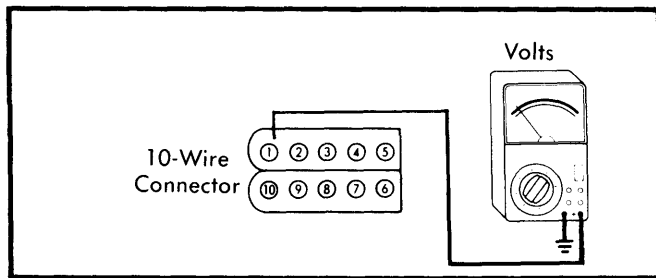

Fig. 3 Voltmeter Hookup for Checking Terminal 1 Voltage
- 6) If spark results, but engine will not start, turn ignition switch to the "RUN" position. Connect positive voltmeter lead to terminal 1 of 10-wire connector and negative lead to a good ground. See Fig. 3. Reading should be within 1 volt of battery voltage. If not, check wire for open and repair it, repeating this step 6) once more. Reconnect 10-wire connector to computer.